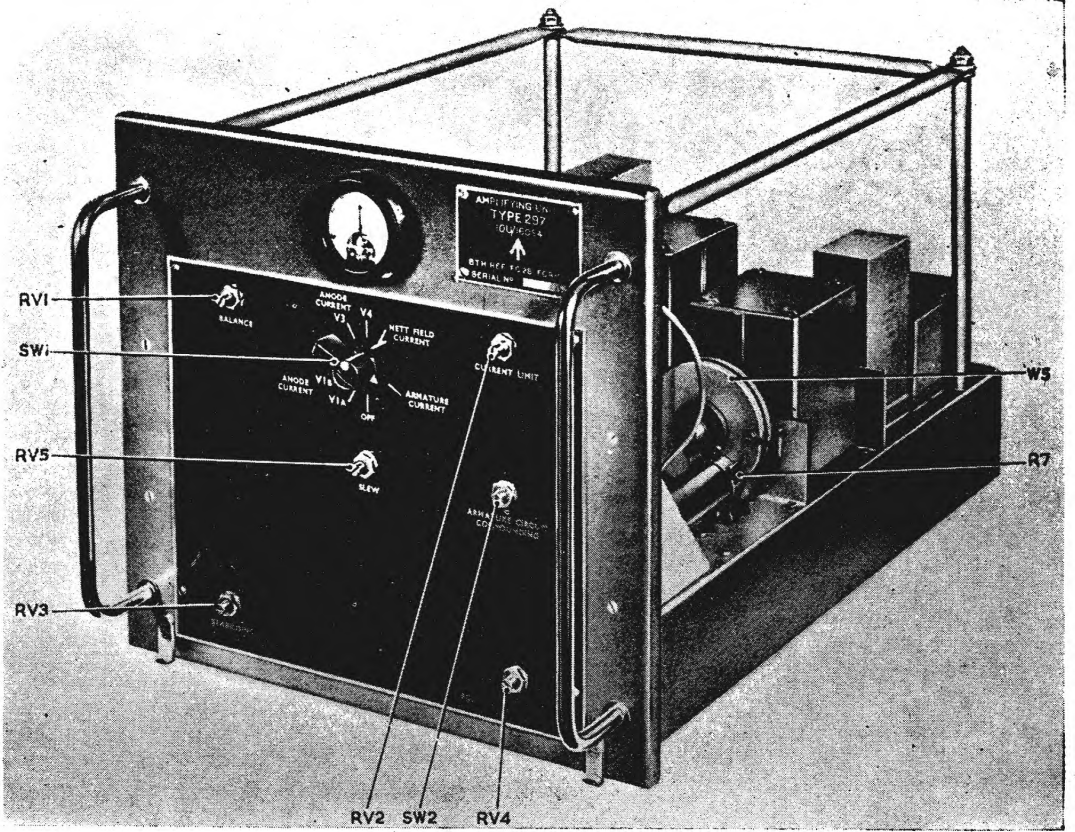

Fig. 1. Servo amplifier Type 297—front view
3. The unit is illustrated in fig. 1, 2 and 3. Mounted on the front panel are various preset controls for adjusting the operating conditions of the turning gear. A meter and associated switch are provided to facilitate the setting-up.